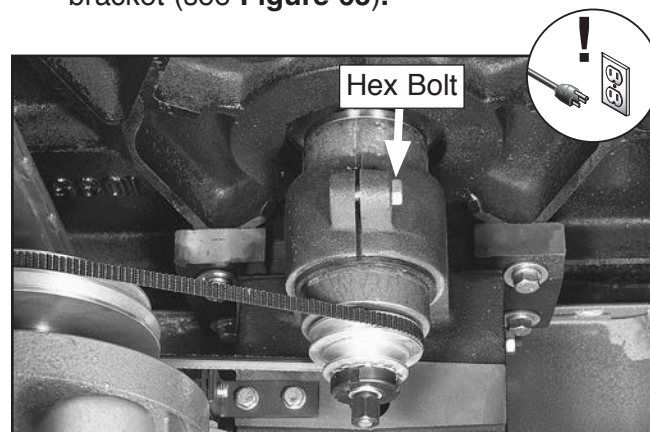

Figure 65. Bolt on spindle slide.
4. Loosen the hex bolt on the spindle cartridge bracket (see **Figure 65**).